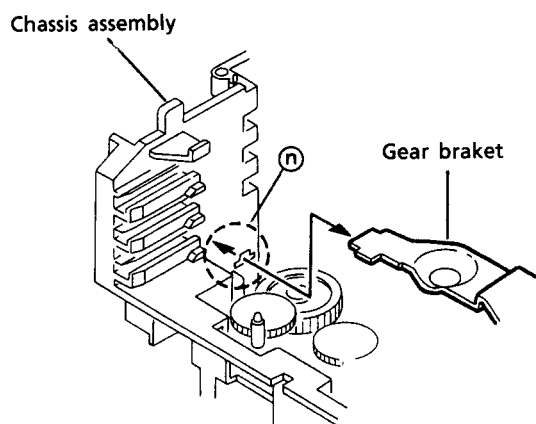

Fig. 38
3. Remove the gear bracket from the chassis ass'y's **(N)** securing top of the gear bracket. (See Fig. 38.)